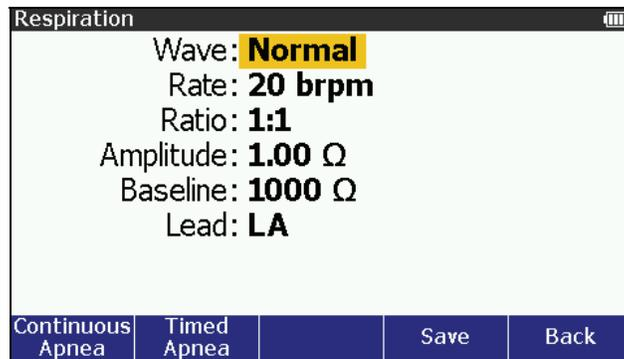

Figure 27. Respiration Screen
3. Push **ENTER**. The Respiration screen in Figure 27, shows in the display.